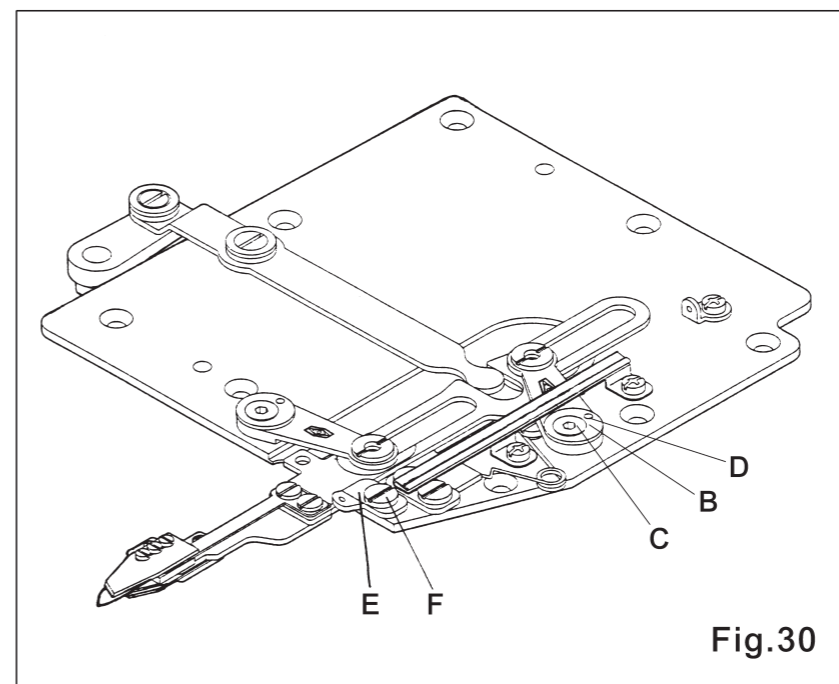

Fig.30
Please set up the mark (D) of Eccentric Ring to 3 o'clock position in ordinary. (Fig.30)
When you would like to adjust the Eccentric Ring for changing the angle of under trimmer, please loose the screw (F) of Lower Knife Carrier Guide. (E) Please let the Lower Knife Carrier Guide (E) touch Lower Knife Carrier in gently and lock the screw (F) down after the angle of trimmer have been adjusted. (Fig. 30)